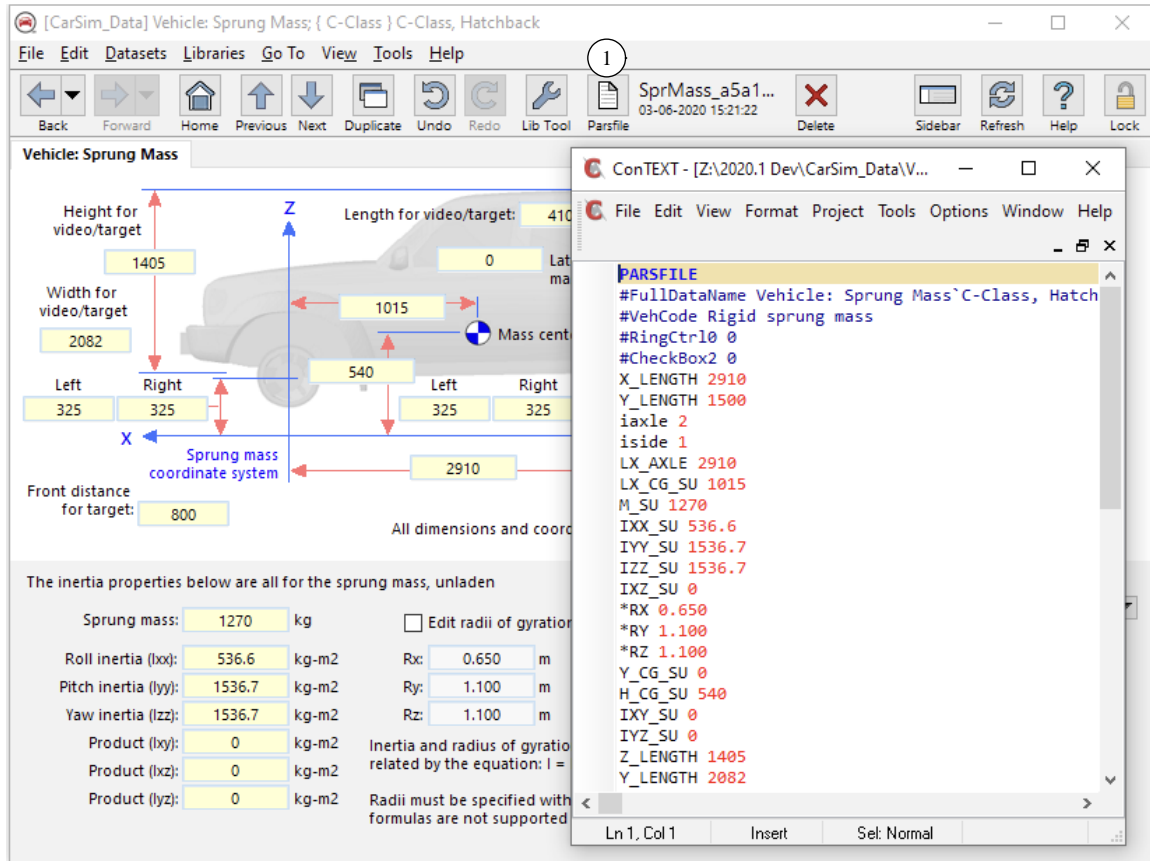

Figure 10. The dataset for each screen is contained in a Parsfile.
The data for each screen is contained in a text file called a *Parsfile*. Each screen has a button ① (Figure 10) that you can click to view the Parsfile. Text in a yellow field in the GUI will appear in the Parsfile preceded by a keyword that identifies a corresponding parameter in the model.